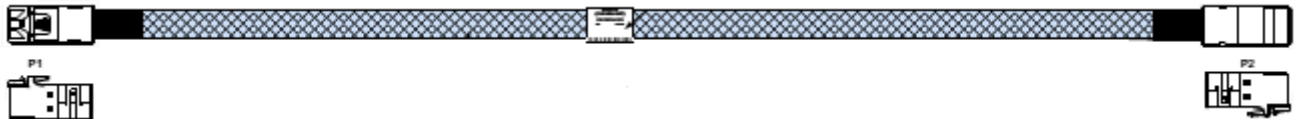

Figure 20. SATA Cable
- d) Attach the P2 end of the SATA Data cables to the on-board Mini-SAS HD connectors for embedded SATA support (see Figure 20).